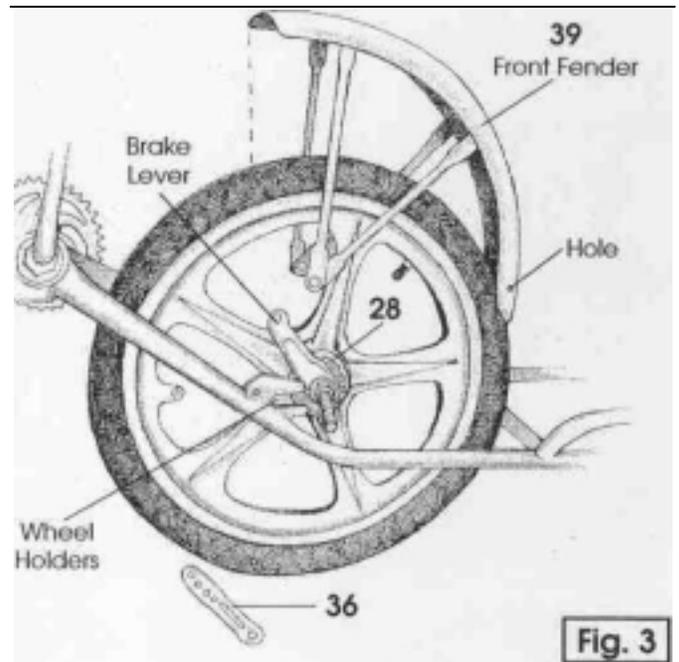

Fig. 3
Install front wheel assembly (28) between the frame wheelholders, with the brake lever pointing forward and above the left frame tube (see figure 3).